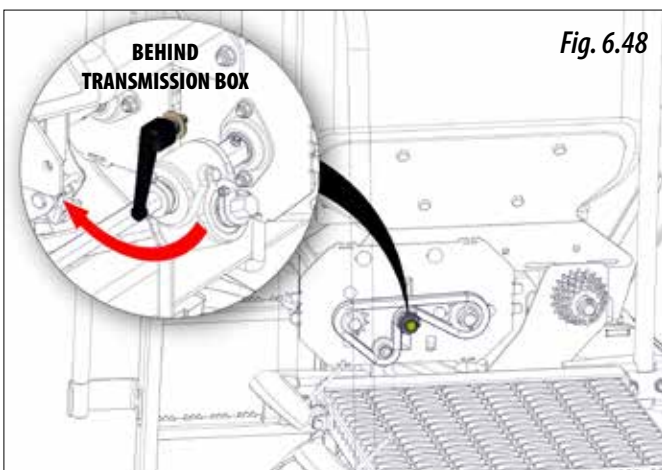

Fig. 6.48
- 4- Reassemble the chain and tension it with the take-up sprocket, tighten the handle securely (Fig. 6.48).